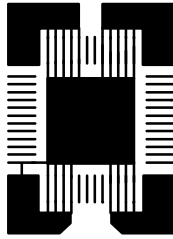

Figure 7. Pad Pattern with Heat Sinking Copper (2)
86.5 mm². The package dimensions are given in Figure 6. Beyond the basic footprint, the ground pins of the package should be connected to copper. This will help transfer heat out of the package and in to the PC board (Figure 7). Heat dissipation is especially important when the internal regulator is used to supply the current to the commutation sensors.